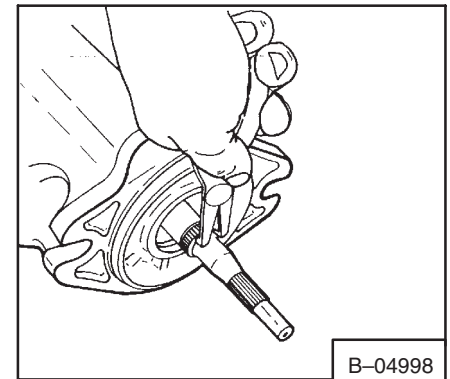

Fig. 3-98 Removing Hydraulic Pump Snap Ring
6. Remove the snap ring (Fig. 3-98), collar from spline and vane pump drive shaft.